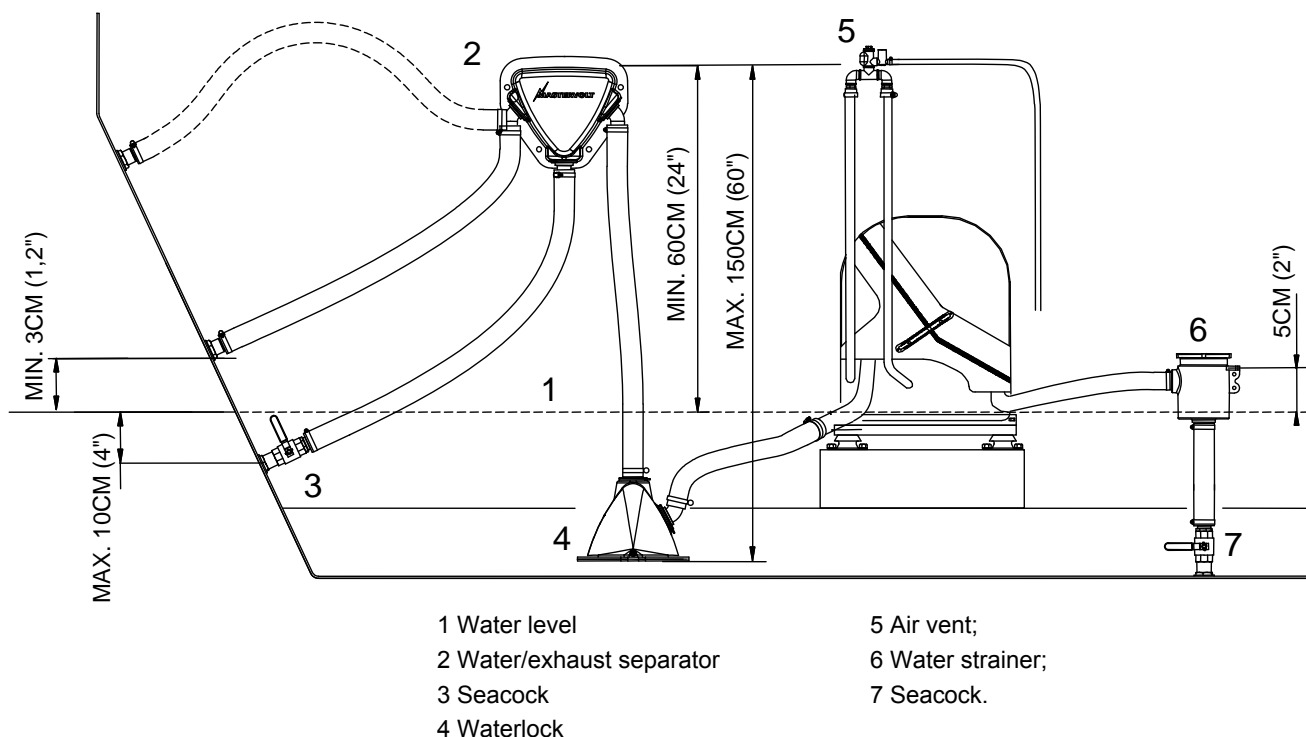

Figure 5: Internal cooling system
Use an appropriate water strainer with connections of 12.5 mm (1/2"). Install the water strainer in a well accessible position, (refer to figure. 5, ref 6) 5 cm above the waterline.